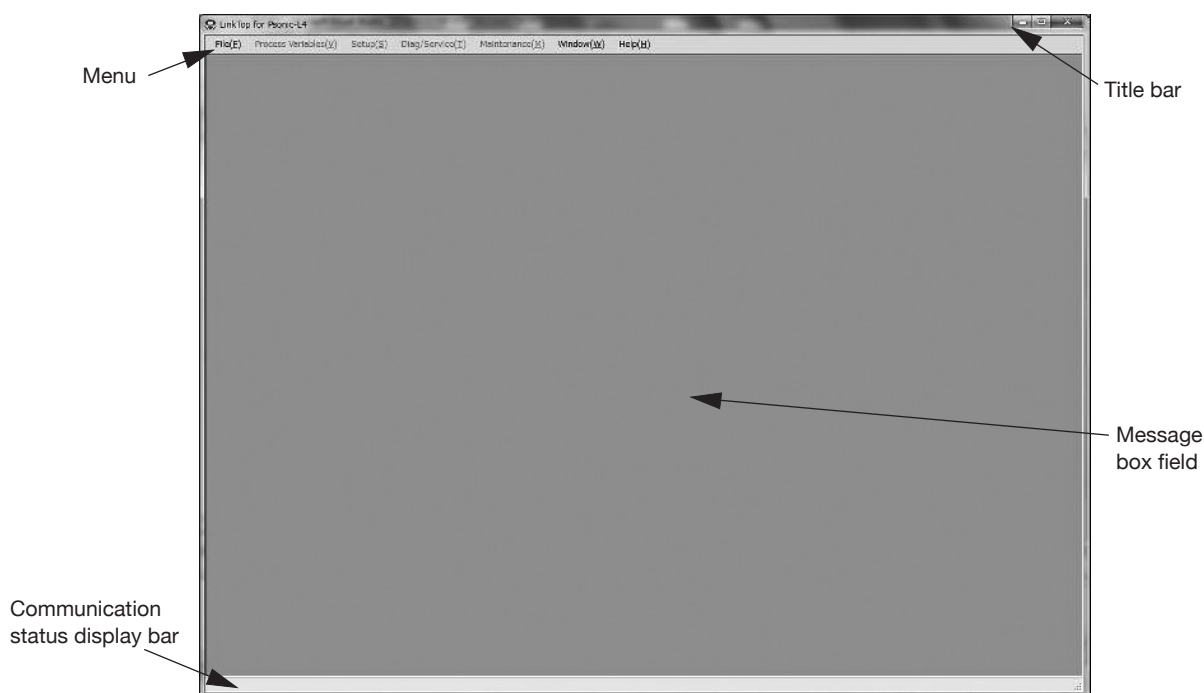

Fig. 3-1
(1) Fig. 3-1 shows what the LinkTop window looks like.